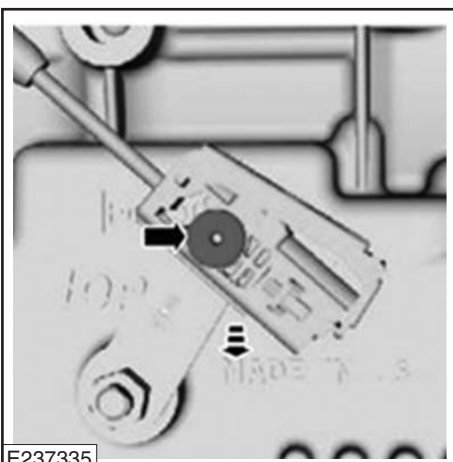

Figure 90
3. Disconnect the selector lever from the transmission manual lever (**Fig. 90**).